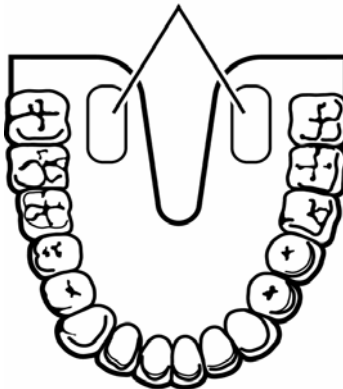

Figure 9: **Location of Sublingual Pockets**
- 4) When dashes “--” appear in the TEMP display window, the temperature sensor is ready to take a measurement. To take a normal predictive temperature, simply insert the probe tip gently into the patient’s slightly opened mouth. Carefully slide the probe under the tongue on either side of the mouth to reach the sublingual pocket. Refer to Figure 9.